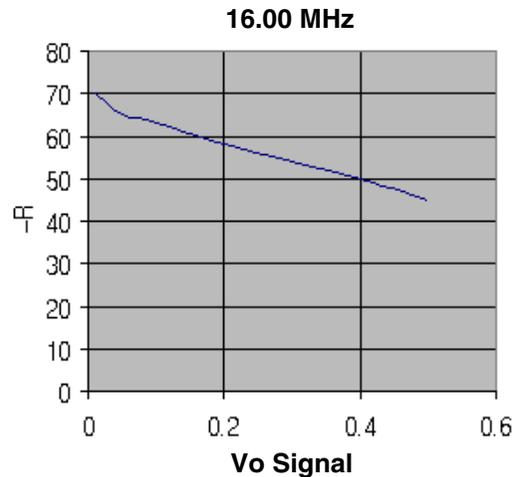

Figure 3. Negative Resistance Versus Output Amplitude for 16 MHz
- Measured negative resistance versus the Vo (output voltage) signal of 16 MHz, as shown in Figure 3.